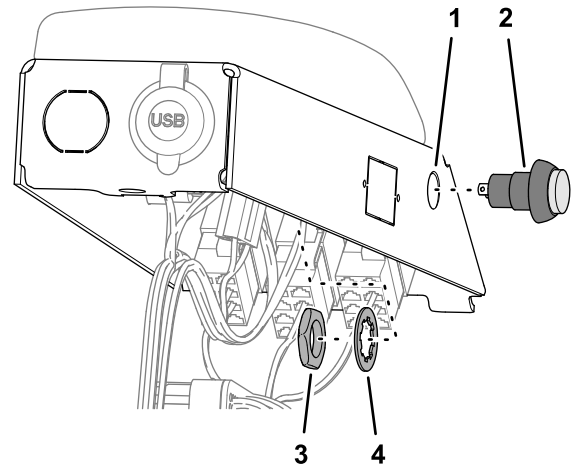

Figure 105
1. Insert the push-button switch into the hole in the arm panel (Figure 105).
2. Secure the switch to the panel with the lock washer and jam nut that came with the switch (Figure 105).